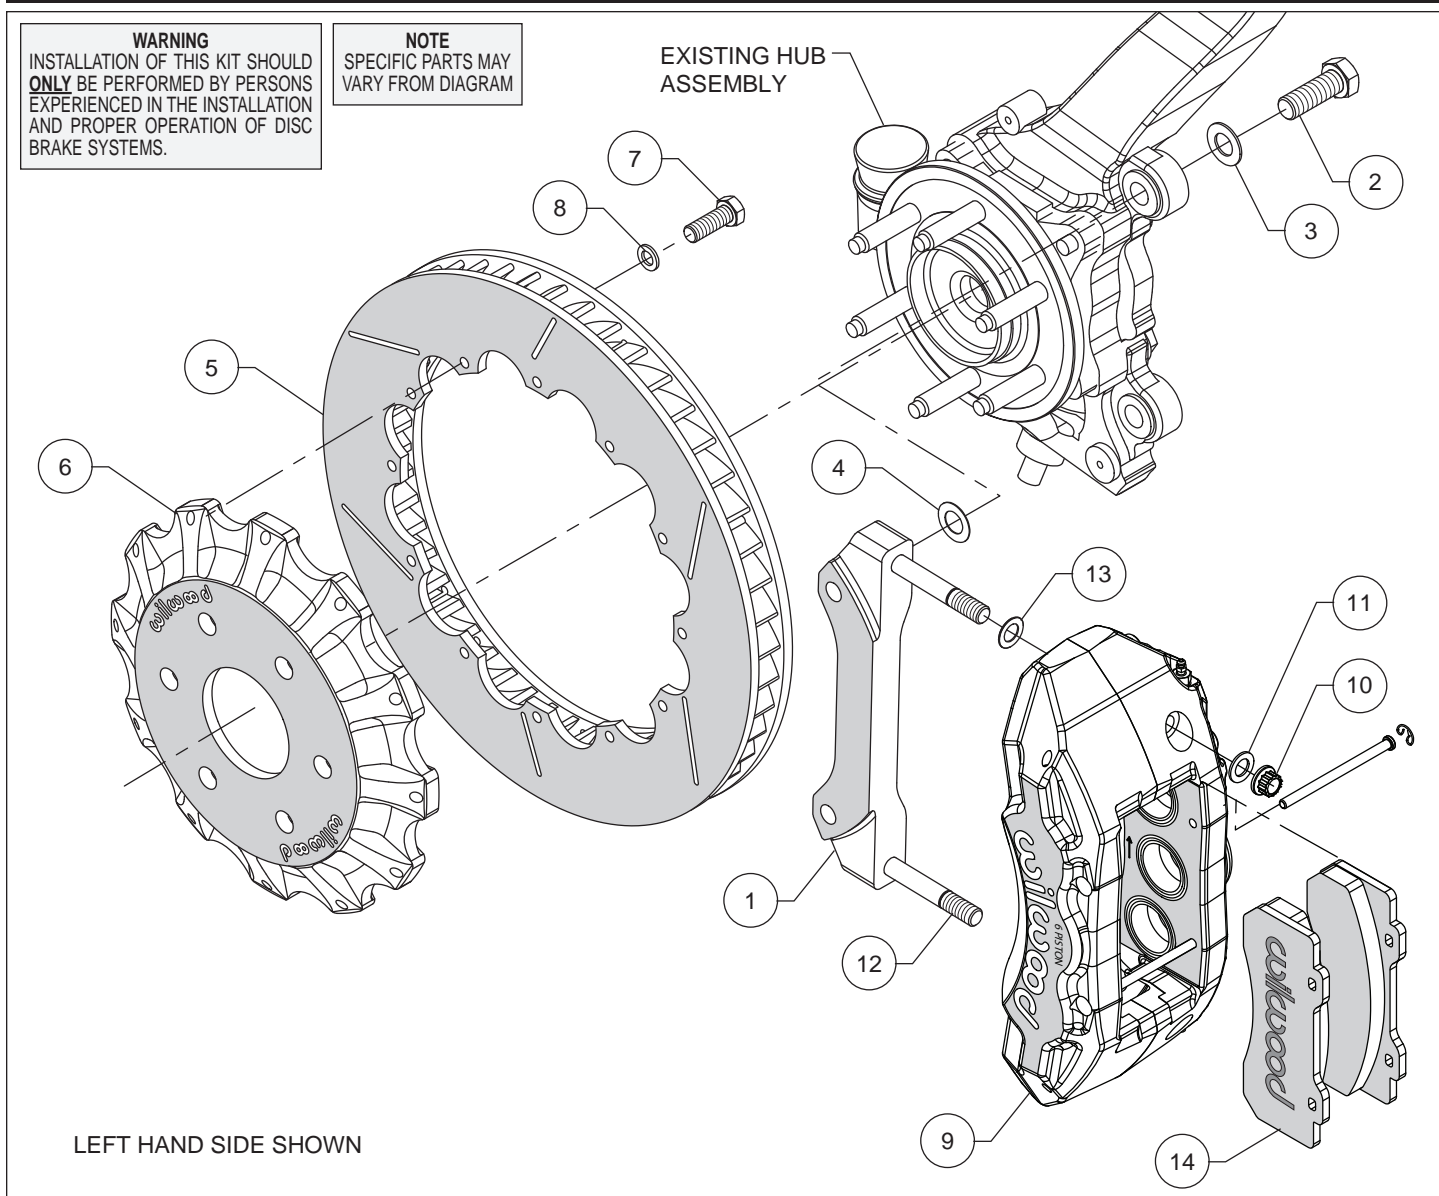
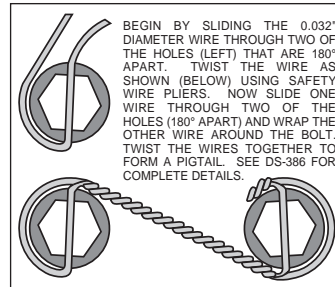

Figure 1. Typical Installation Configuration
Figure 3. Safety Wire Diagram
Assembly Instructions (numbers in parenthesis refer to the parts list and Figure 1 on the preceding pages):
- The caliper mount bracket (1) should initially be installed with clean, dry threads on the mounting bolts. Orient the bracket as shown in Figure 1 and Photo 1, and install using bolts (2) and washers (3). Initially place one .024 thick shim (4) on each bolt between the bracket and upright, Figure 1. Temporarily tighten the mounting bolts. **NOTE:** *The bracket must fit squarely against the mount bosses on the upright.* Inspect for interference from casting irregularities, machining ridges, burrs, etc. Later, after the caliper alignment has been checked, the mount bolts will be secured using red *Loctite*[®] 271.
- Orient the rotor (5) and the hat (6) as shown in Figure 1 and Photo 2. Attach rotor to hat using bolts (7) and washers (8). Using an alternating sequence, torque to 25 ft-lbs. For an added measure of security, the bolts may be safety wired using standard 0.032 inch diameter stainless steel safety wire as shown in Figure 3. Refer to Wilwood's data sheet DS-386 (available at www.wilwood.com/Pdf/DataSheets/ds386.pdf) for complete safety wire installation instructions.
- NOTE:** *This kit contains distinct right and left hand calipers that must be mounted in a specific direction, as described below.* Lubricate the caliper mounting studs (12) with lightweight oil. Initially place one .032" thick shim (13) on each stud as shown in Figure 1 and Photo 3. Mount the caliper (9) onto the bracket (1) using lock nuts (10) and washers (11), Figure 1. Ensure that the caliper is mounted so that the largest pistons are at the rotor exit end of the caliper, in relation to the direction of rotor rotation. Temporarily tighten the lock nuts and view the rotor through the top opening of the caliper. The rotor should be centered in the caliper, Photo 4. If not, adjust by adding or subtracting shims (4) between the bracket and the upright. Always use the same amount of shims on each of the two mounting bolts. Once the caliper alignment is correct, remove the bracket mounting bolts (2) one at a time, apply red *Loctite*[®] 271 to the threads, and torque to 120 ft-lb.